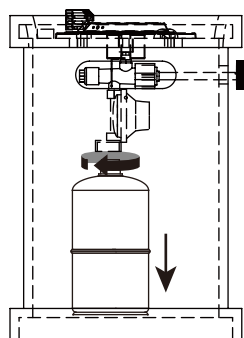

Figure 4
5. Disconnecting propane cylinder (See Figure 4)